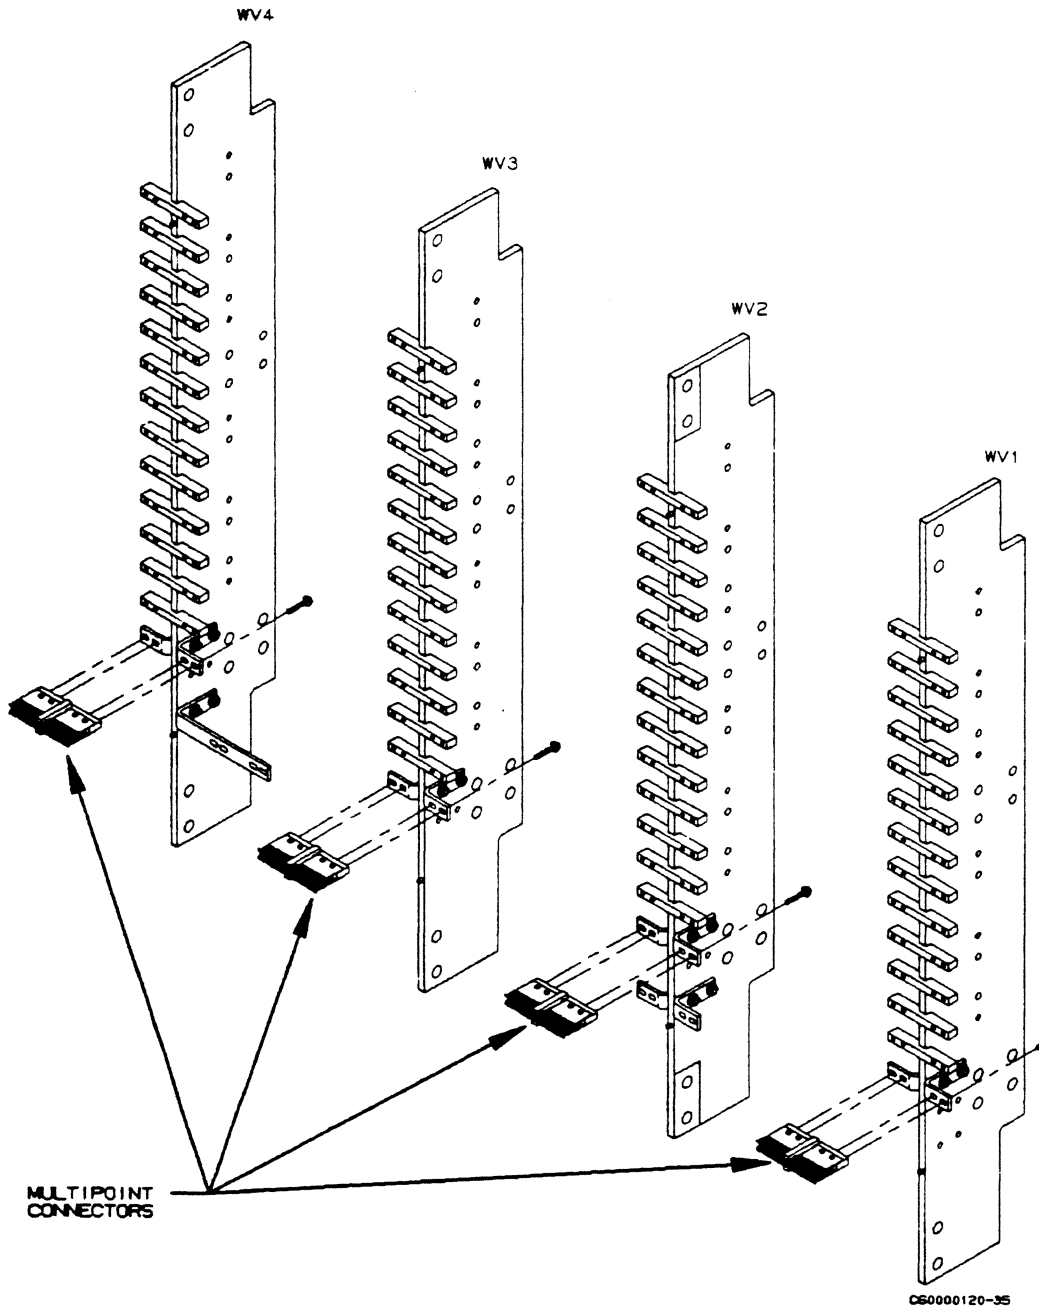

Figure 3-22. Multipoint Connector Installation
- 9. If Remote IOU is present, loosely install a full row of multipoint connectors on power and ground buses that were installed in an earlier procedure (figure 3-22). Multipoint connectors are supplied in kits #CP1-2 through CP1-5.